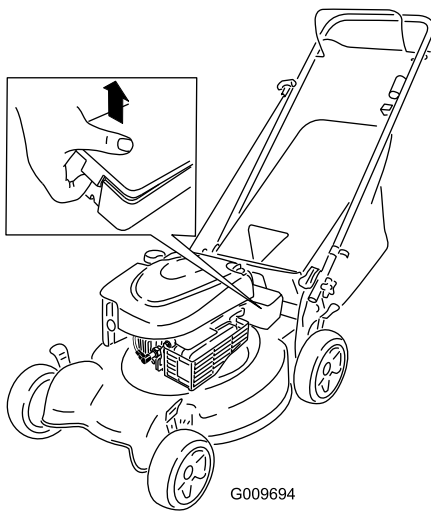

Figure 21
- Unclip both ends of the battery cover and remove it (Figure 21).